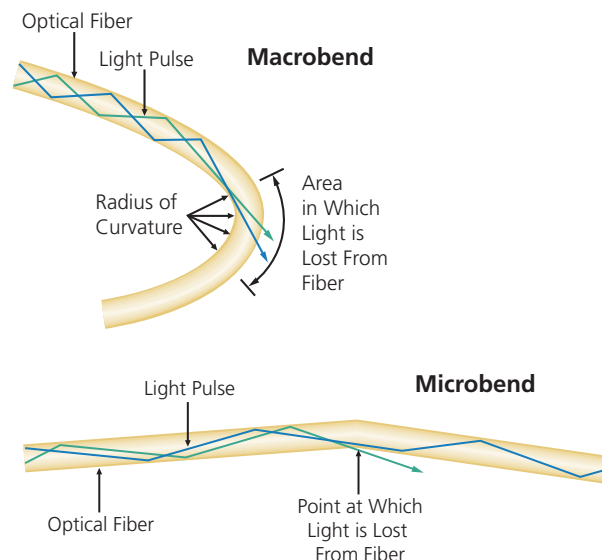

Figure 4: The Importance of Maintaining Proper Bend Radius
1. Bend radius protection – Fibers bent beyond the specified minimum bend diameters can break, causing service failures and increasing network operations costs. Adding new fibers on top of previously installed fibers can easily bend the bottom fiber beyond its minimum bend radius and suddenly cause an increased level of attenuation and a shorter service life (see Figure 4). By emphasizing fiber cable management, ADC provides bend radius protection at all points where a fiber cable is making a bend—preventing micro- and macrobending losses. This practice increases long-term reliability of the network, reduces down time and ultimately reduces the operating cost of the network.